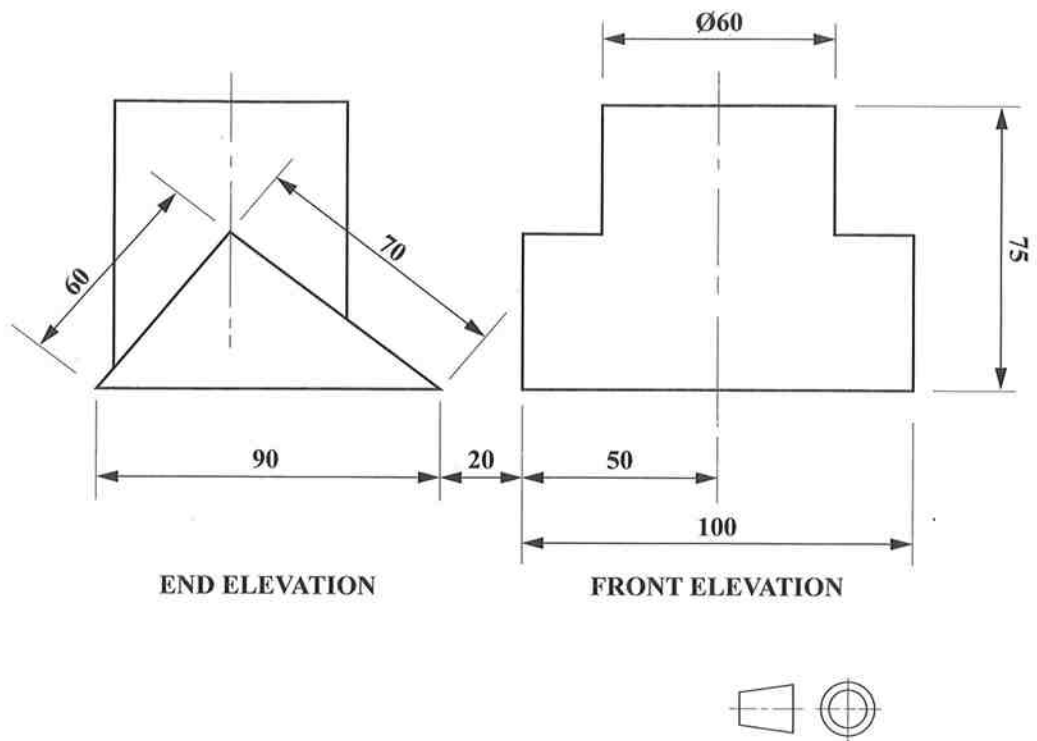

Figure 4
5. **Figure 4** shows the end elevation and incomplete front elevation of a cylinder intersecting a triangular prism. Construct